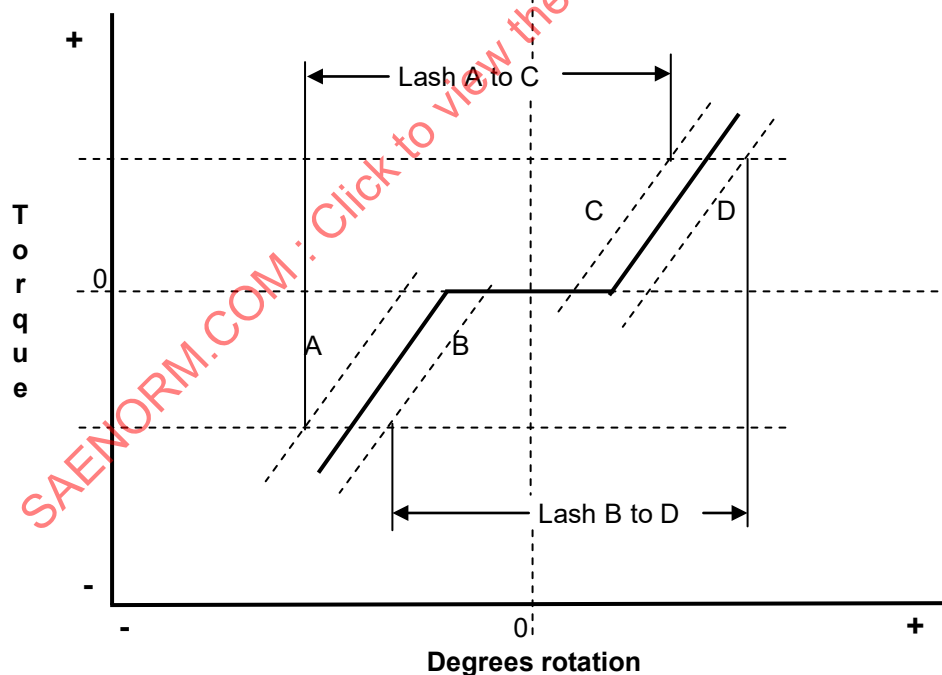

Figure 9 - Rotational lash
- g. Referring to Figure 9, draw the best-fit lines (labeled) tangent to the curves. This separates wind up from lash.